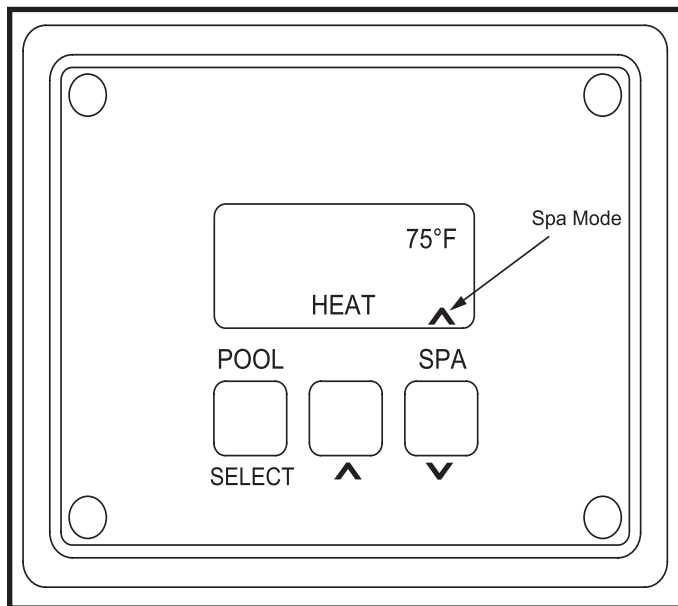

FIG. 42C Spa Temperature Setting
8. The spa temperature is displayed (Figure 42C).
9. Using the **Up** and **Down** arrow keys, adjust the spa temperature (Figure 42C). When at the desired temperature, press the **Select** key.